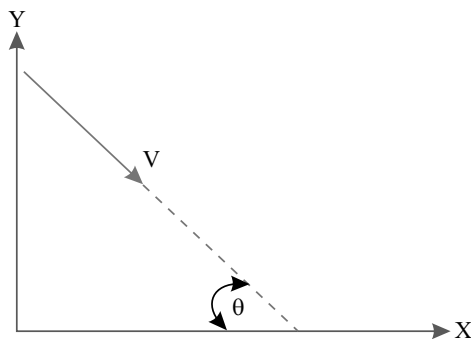

Fig. 5.25
i.e., velocity makes an angle θ with the axis shown in Fig. 5.25, given by: